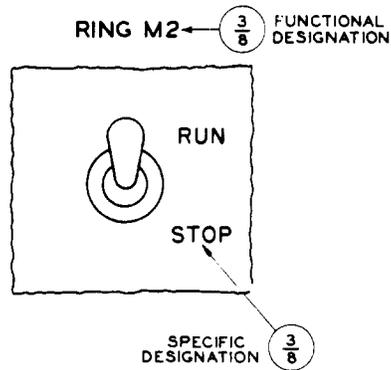
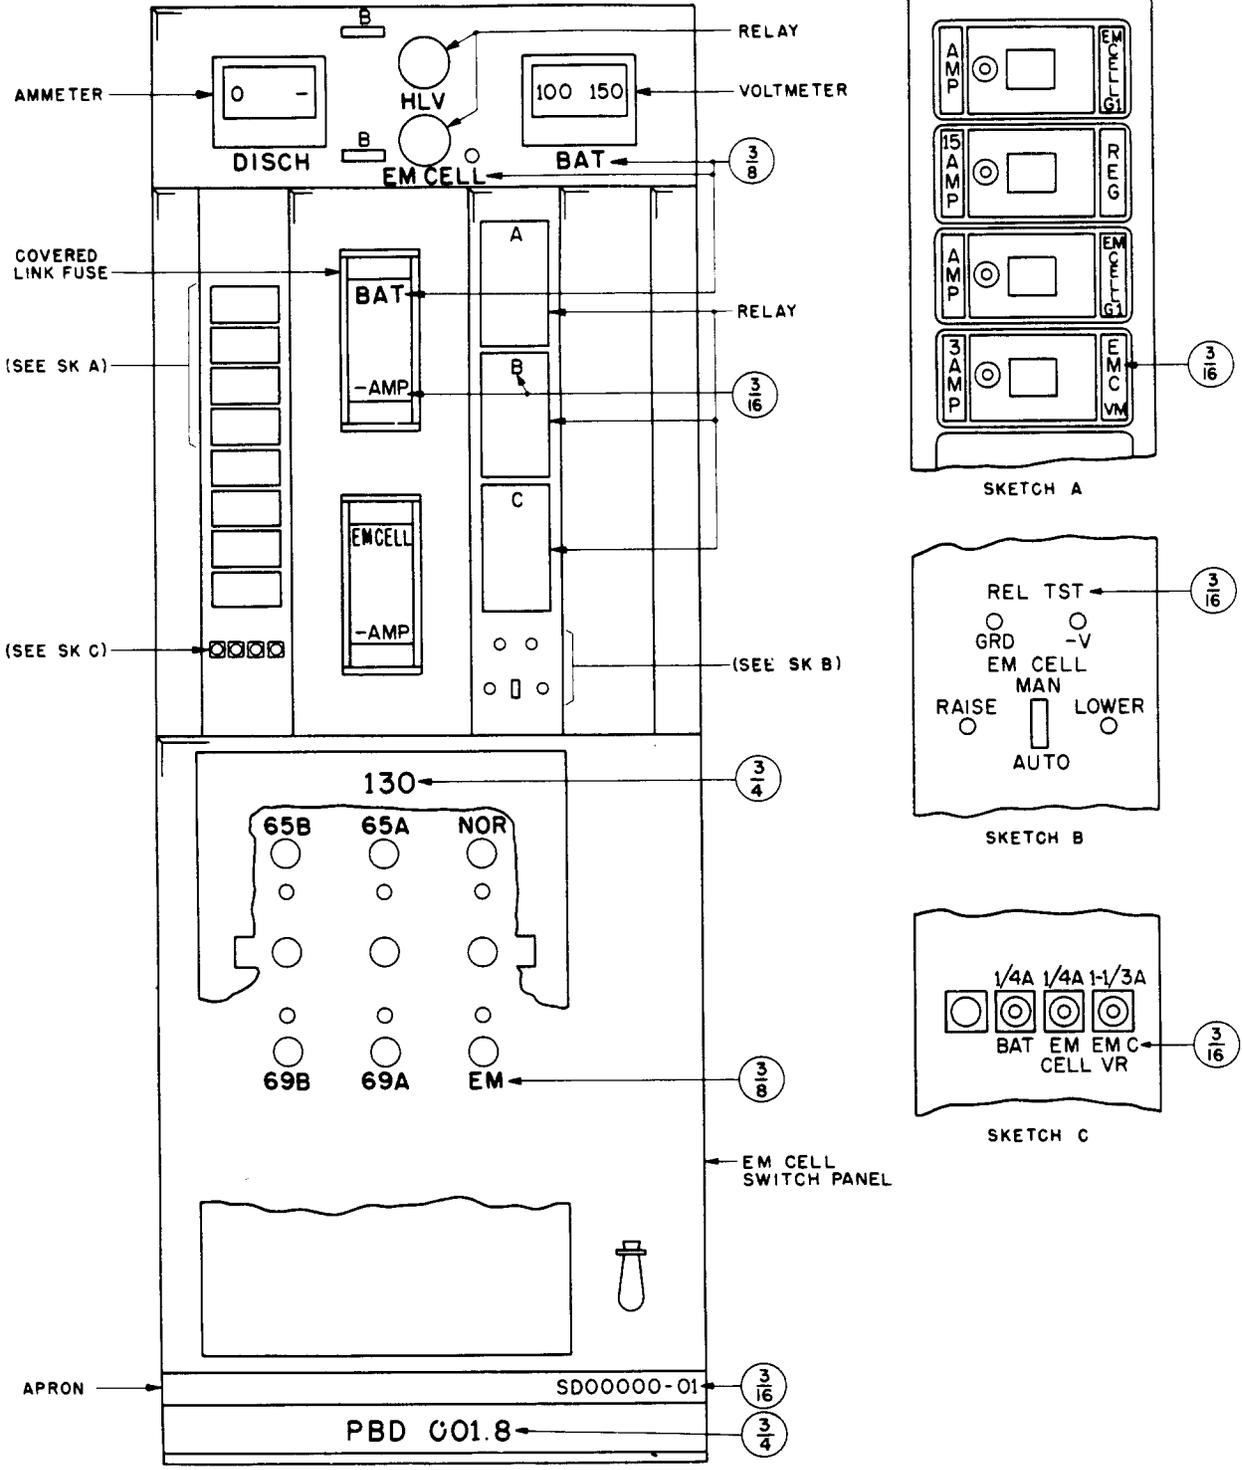

Fig. 46 - Toggle Switch
Fig. 50 - Typical Emergency Control Bay Equipment
are numbered in accordance with relay rack line-up system per 2.01 in Section 800-610-156. Each line-up of power board or isolated bay is given a line-up number. Each bay in a line-up shall be stamped with the complete line-up designation. Generator control bays adjacent to M-G sets and floor-mounted rectifiers are not numbered in accordance with this system. (See Fig. 50.)
2.65 For snap or toggle switches, see Fig. 46 and 47. Other arrangements on panels are shown in Fig. 50 and 51.
2.66 For pushbutton switches, see panel assemblies, Fig. 50 and 51.
2.68 For automatically operated switches, see Fig. 50. Caution signs shall be stamped in a conspicuous location when such switches are not under a cover.
2.72 Designate varistors as for relays in 2.52, 2.53, and Fig. 50. Also, see Section 800-613-155 and 1.04.